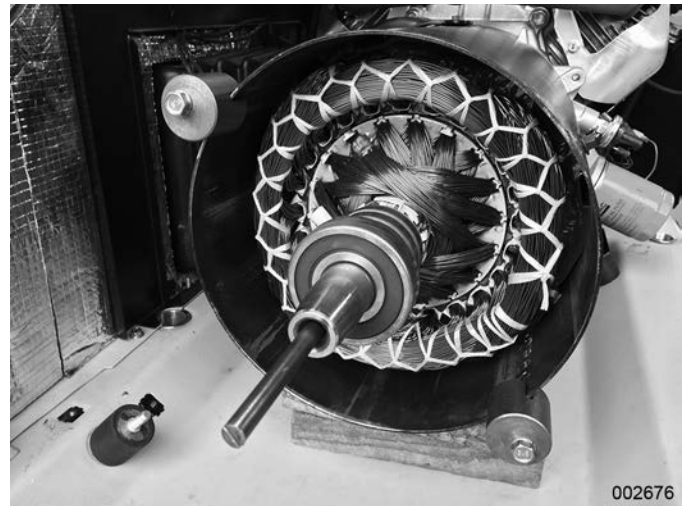

Figure 6-43.
23. See Figure 6-43. Slide the rotor bolt back through the rotor and use a screwdriver to screw it into the crankshaft. Screw a 3" M12 x 1.75 bolt into rotor end. Apply torque to the 3" M12 x 1.75 bolt until rotor breaks free from the tapered crankshaft.